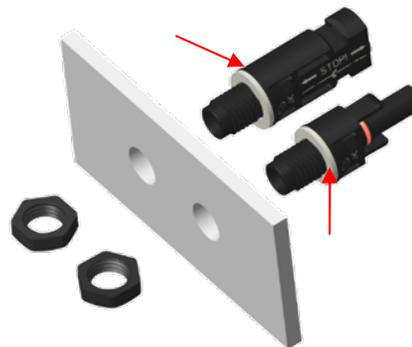

Figure 15
- ✧ 在公/母面板连接器插入钻孔前，请确保已安装防水垫圈，且防水垫圈安装在墙板的外侧(如图 15)。
Please ensure seal gasket is located on the insulation before mounting the plastic insulations through the bore. In mounting position, the seal gasket must lie even on the outside of the mounting surface (Fig.15).